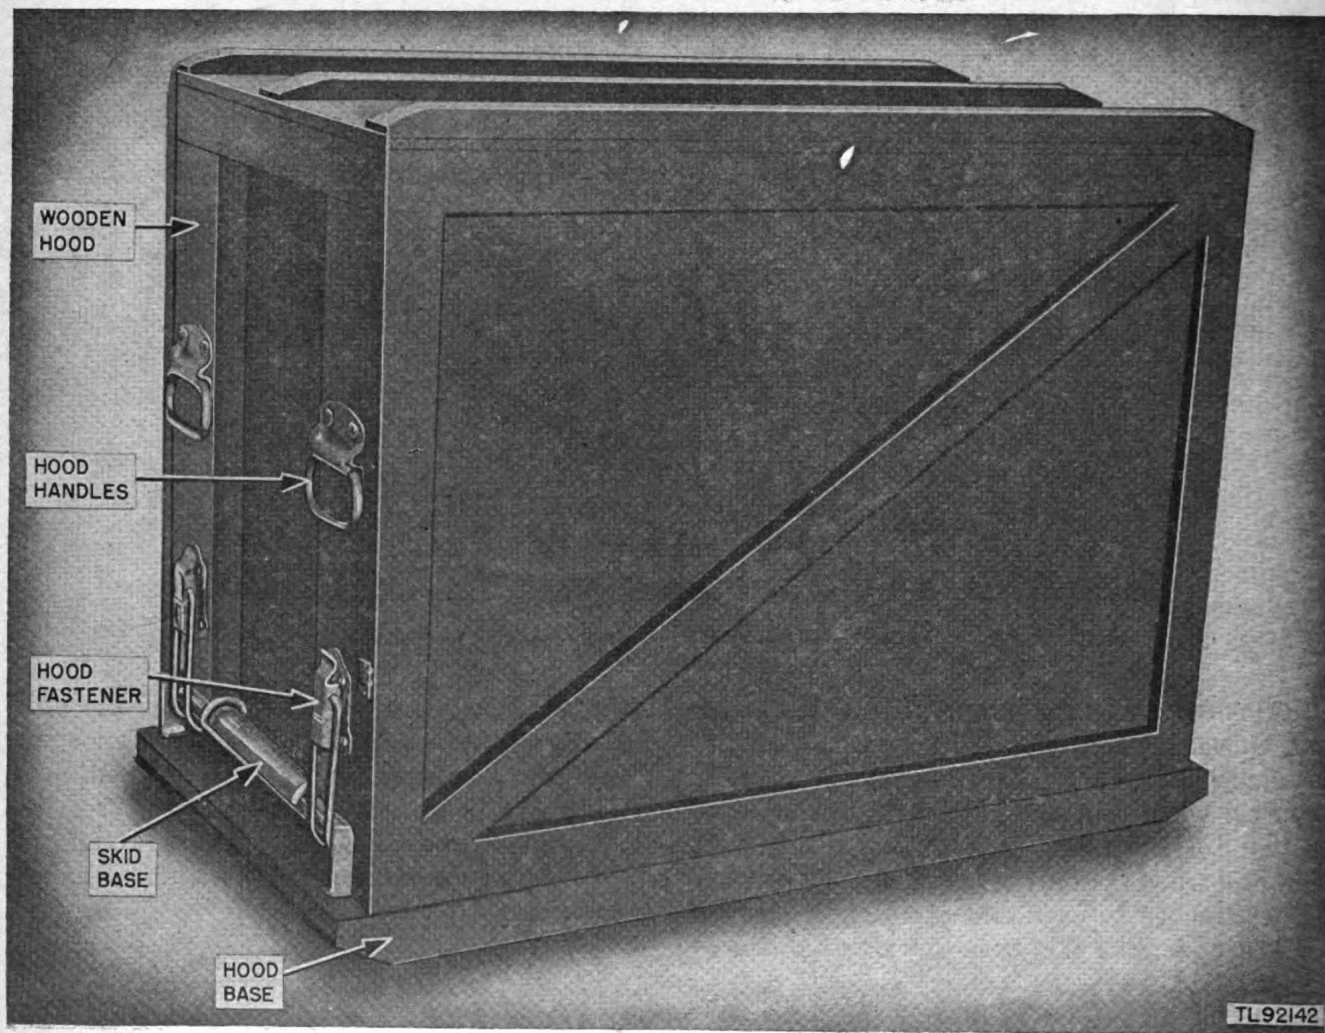

Figure 16. Wooden hood.
c. POWER UNIT PE-49-F, PE-49-G, OR MOTOR GENERATOR MG-37-A (fig. 16). This hood is made entirely of wood and is fastened together with resin-coated nails. It provides protection for the power unit during transportation and when the unit is not in use. Two drawbolts attached to each end of the hood can be hooked under the skid base carrying handles to
d. HOOD BASE. The removable hood base (fig. 16) on Power Unit PE-49-F and PE-49-G and Motor Generator MG-37-A provides a support for the entire unit and hood during transportation, and permits skidding the power set over rough terrain in the field. It is constructed of wood and is held together by resin-coated clinch nails. Four J-bolts hold skid mounting to the hood base.